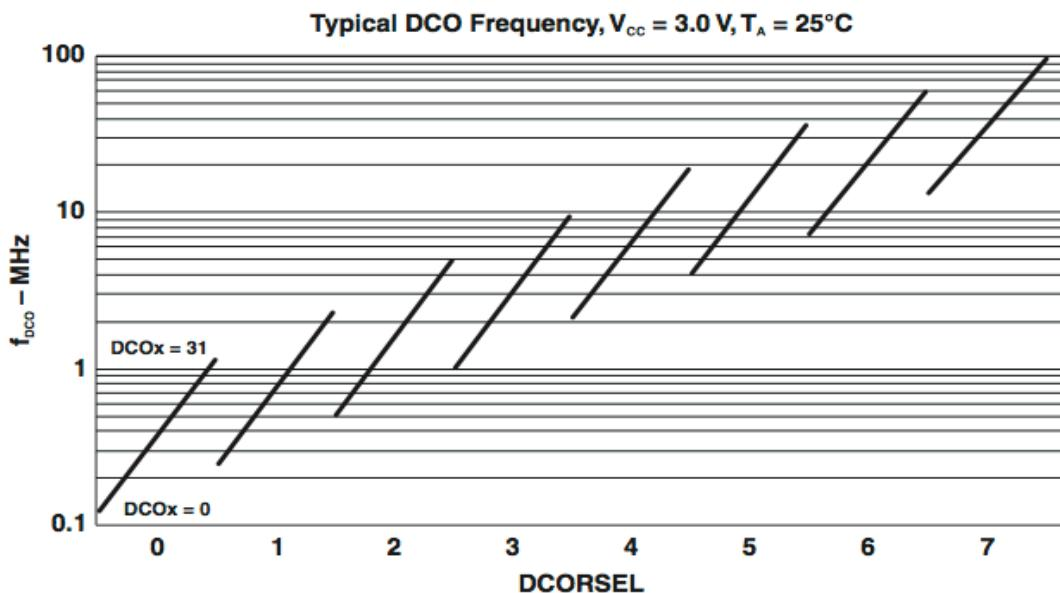

Figure 6.- *DCOx* and *DCORSEL* diagram
4. Now change the clock frequency to 8 MHz with the help of Figure 6. You need to change the registers UCSCTL1 and UCSCTL2 for that. Refer to the Datasheets *cc430f6137.pdf* and *slau259e.pdf* for detailed information on these registers.